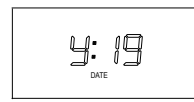

Fig.5
1. Press the SET button until the Y:XX icon (year) appears and the D (DATE) icon [2] flashes (see Fig.5).